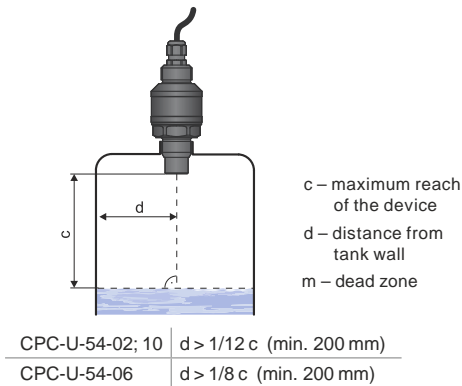

Fig. 2: Distance of the device from the tank wall
- The **minimum distance** when you are installing level meter into the lid or the ceiling of the tank are listed in Fig. 2.